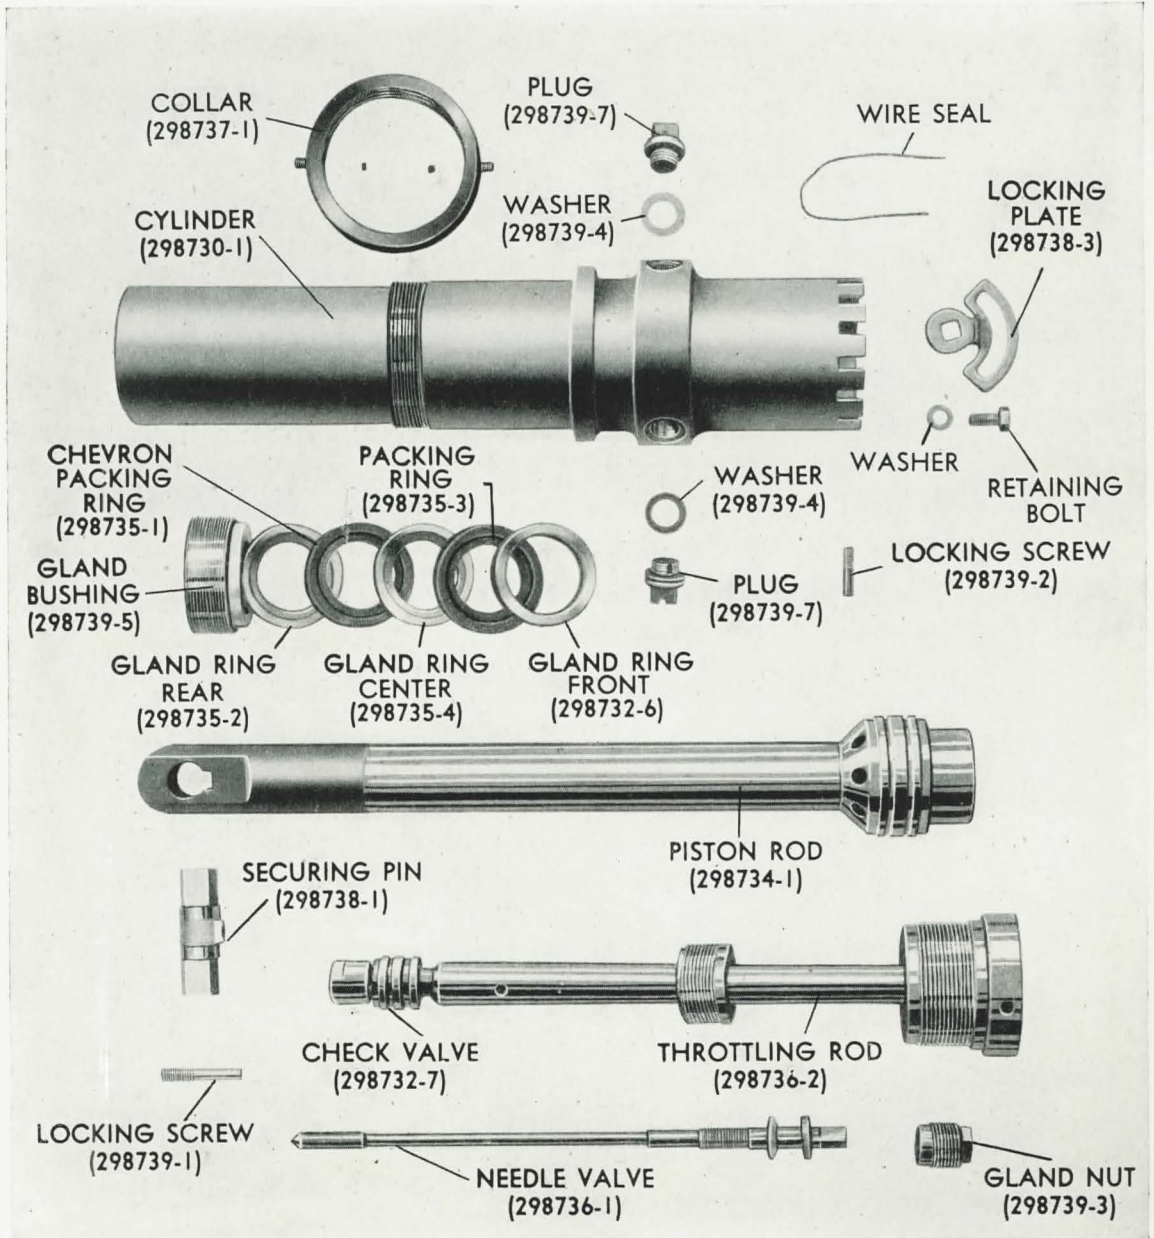

Figure 51
- (1) Tap out the taper pin.
- (2) Unscrew the valve seat from the throttling rod, and remove the throttling bushing.
4. Assembly of the Stripped Recoil Cylinder Assembly, Figure 51.